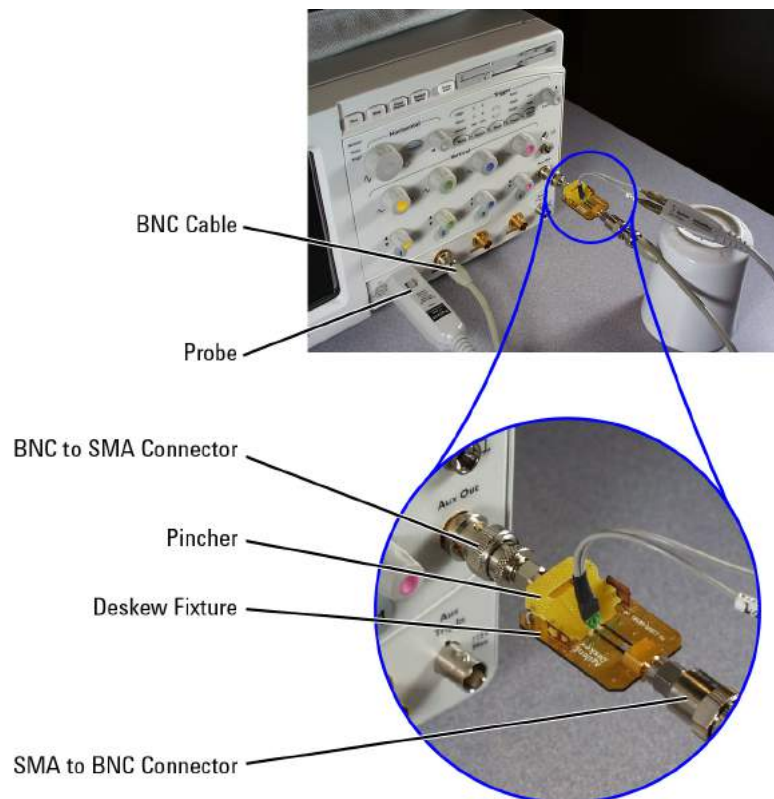

Figure 109 Connecting the Probe
- 1 As shown in **Figure 109** on page 129, connect BNC (male) to SMA (male) adapter to the deskew fixture on the connector closest to the yellow pincher.